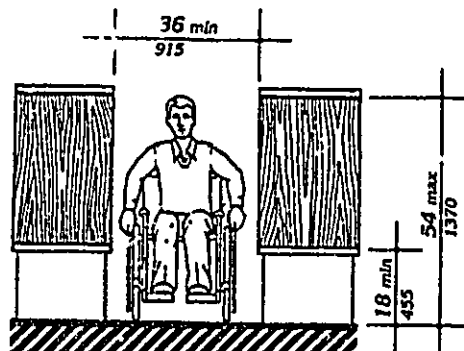

Fig. 55
8.4 Card Catalogs. Minimum clear aisle space at card catalogs, magazine displays, or reference stacks shall comply with Fig. 55. Maximum reach height shall comply with 4.2, with a height of 48 in (1220 mm) preferred, irrespective of reach allowed.